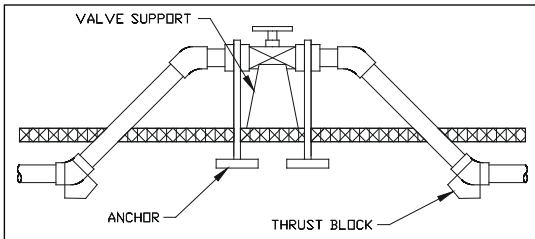

Figure 10 - Above ground valve support
- Thrust blocks for above ground installation must be constructed to support fittings listed in Figures 10 & 11.